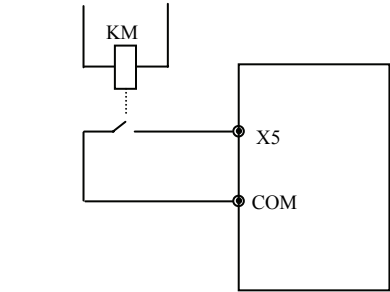

Fig. 7-15 Peripheral equipment fault Normally Open
**22: External equipment failure jump-in.** with this terminal, peripheral equipment fault signal can be input, which is convenient for inverter to perform fault monitoring for peripheral equipment, as shown in Fig. 7-15.